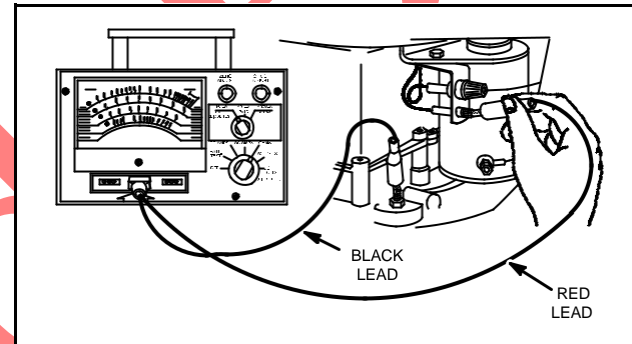

Fig. 785 – TESTING AC OUTPUT
4. Attach RED test lead clip to AC output terminal, Fig. 785.